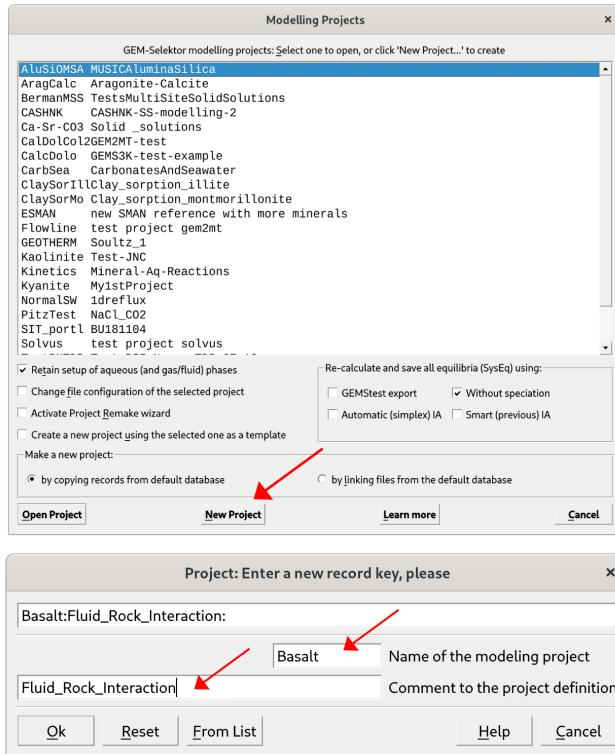

Figure 1.4: GEMS user interface showing the project window. Click on make a ‘New Project’ and select a project name without spaces.
- Once you copied the database files, close GEMS. Open GEMS and click New Project in the Modeling Projects window. Give a name to your project (no spaces). The user interface is shown in Figure 1.4. Note if you run into display problem on high dpi screens (4K), I suggest to change the display resolution (e.g. to 1920 x 1080) and restart gems.